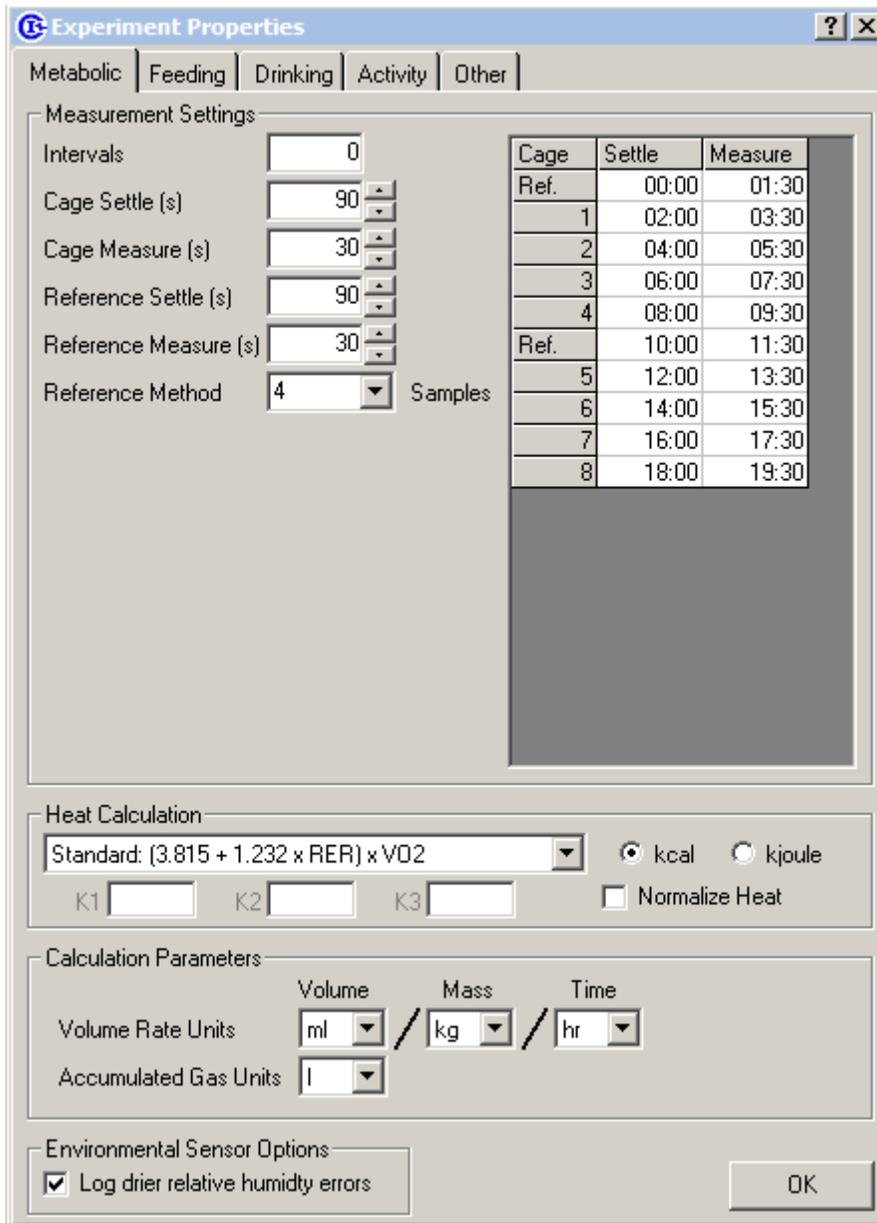

Figure 10 - Metabolic Experiment Properties
When the Experiment Properties Window first opens, it displays the settings for the metabolic components of the CLAMS system as in Figure 10.
- **Measurement Timeline** – The Measurement Timeline is the table on the right-side of the form that indicates the order and schedule for measurements under the current experiment settings. The times listed are presented in minutes since the start of the experiment or since the end of the last line of the schedule. The timeline will show multiple references or cage measurements up until the point the schedule repeats itself. The example in Figure 10 shows a system with four cages being referenced every four cages.